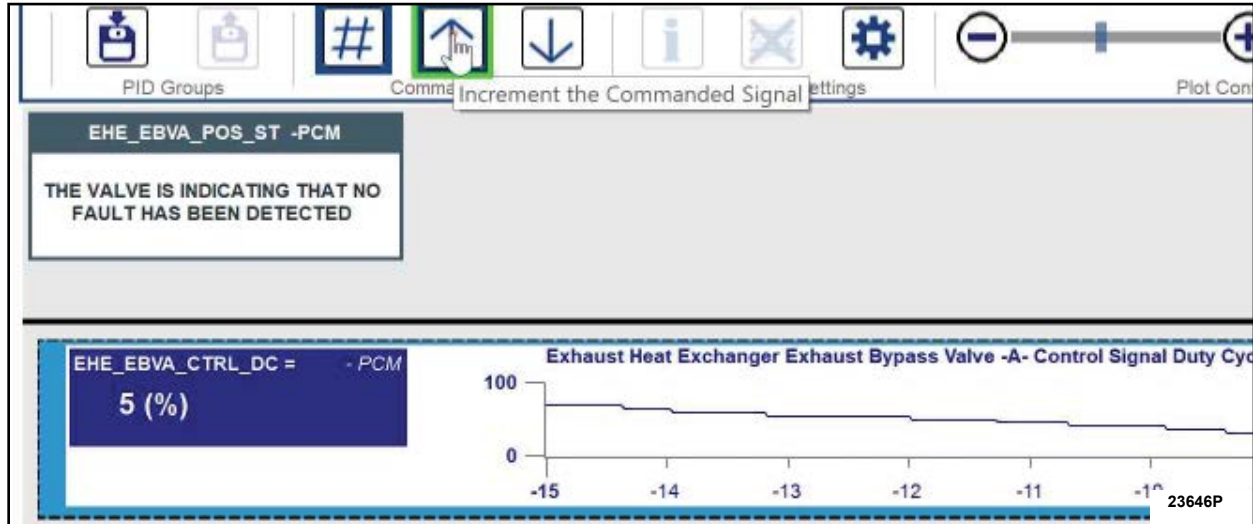

FIGURE 15
3. Command EHE_EBVA_CTRL_DC # from 5% to 95%. See Figure 15.